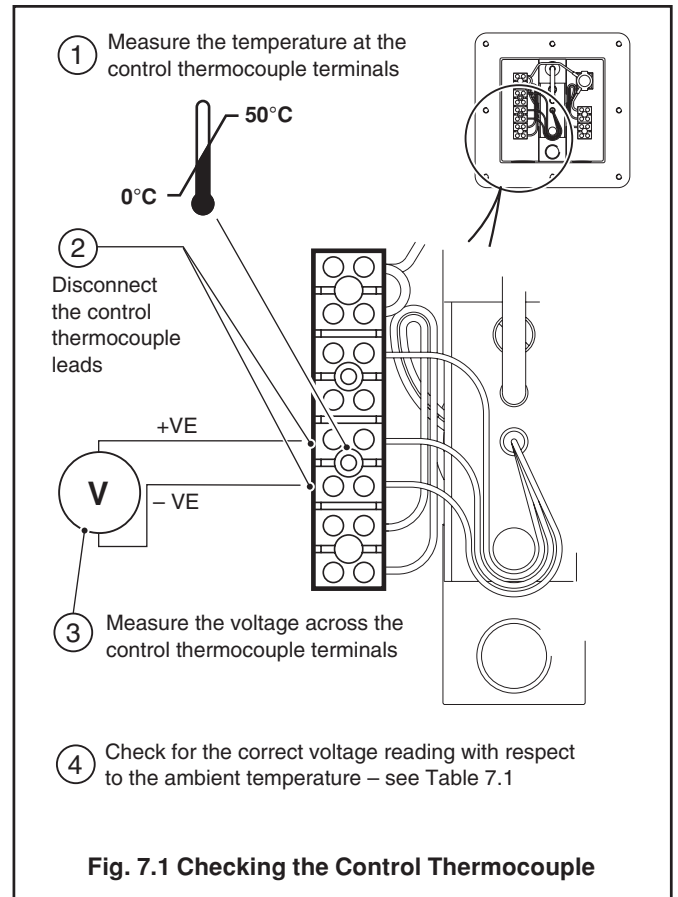

Fig. 7.1 Checking the Control Thermocouple
7.1.1 Checking the Control Thermocouple – Fig. 7.1
- b) Check the control thermocouple voltage as shown in Fig. 7.1. The measured voltage must be within $\pm 0.1\text{mV}$ of the voltages listed in Table 7.1.